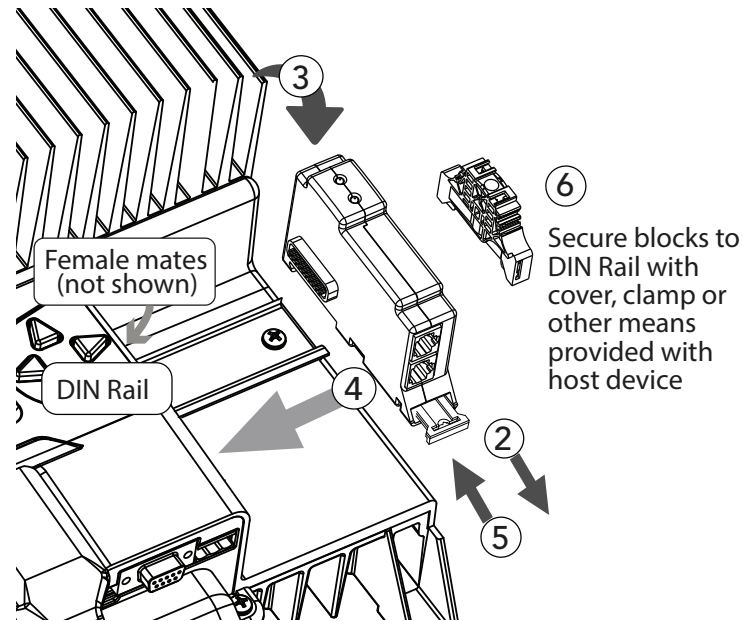

Figure 3-1. Mounting BMS Block on the Host Device
Morningstar Ready Blocks (ReadyShunt, ReadyRelay, ReadyBMS) are DIN rail-mounted, and have modular 20-pin connectors on each side of the Block. The left-side male connector mates with the host device's control board, while the right-side female connector is available to mate to another ReadyBlock (daisy-chain configuration - see Figure 3-1 below). Each ReadyBlock takes one of (3) positions on the GenStar DIN Rail - the left-most being Position 1.
**To install a ReadyBMS** (see Figure 3-1 below):